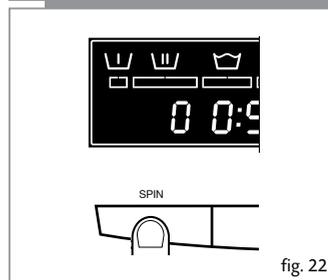

fig. 22
- Press the spin button again to get to the no spin option and the display will show "0" (Figure 22).